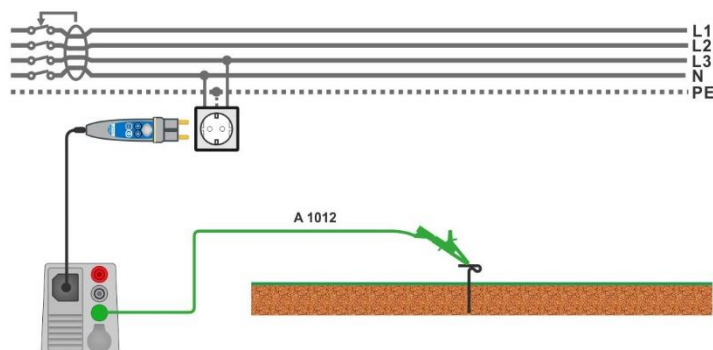

Figure 7.34: Connection for $U_c(P)$ measurement
For connection see **Figure 7.34 Connection for $U_c(P)$ measurement.**
- › Connect test lead to P/S terminal and external earthed point (optional, see **Figure 7.34**).